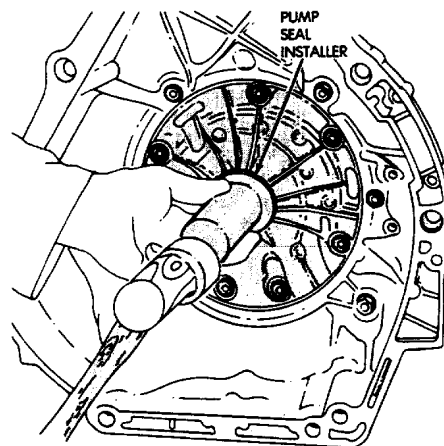

Fig. 51 Installing Oil Pump Seal
(1) Remove converter.
(2) Remove old seal. Use blunt punch to collapse seal and pry seal out of pump housing. Do not scratch or damage seal bore.
(3) Lubricate lip of new seal with petroleum jelly and install seal in pump (Fig. 51).
(4) Align and install torque converter.